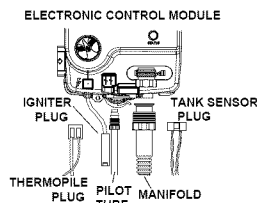

FIGURE 32.
5. Disconnect the following from the gas control valve/thermostat: thermopile plug, tank sensor plug, igniter wire plug, pilot tube, and manifold tube. (See Figures 32 & 33.)